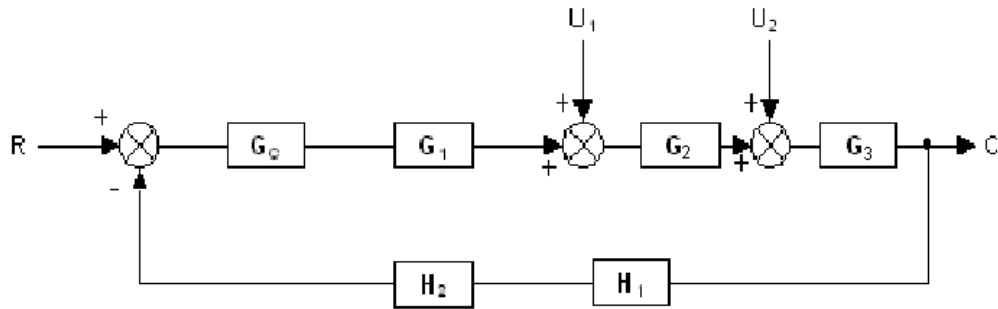

Figure 4
4. Determine the transfer function  $C/R$ ,  $C/U_1$  and  $B/U_2$  for the system shown in figure 4. Also determine an expression for  $C$  in terms of  $R$  and  $U_1$  for the situation when both set-point change and load change occur simultaneously. [16]